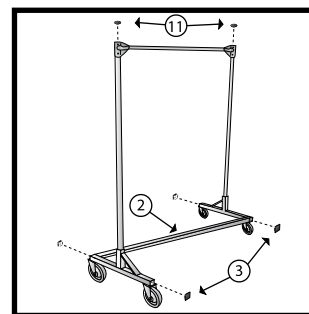

Figure 4
4. Insert square end caps (3) into frame opening (2), and round end caps (11) into top of upright bars (6). End caps will need to be hammered on. (Figure 4)